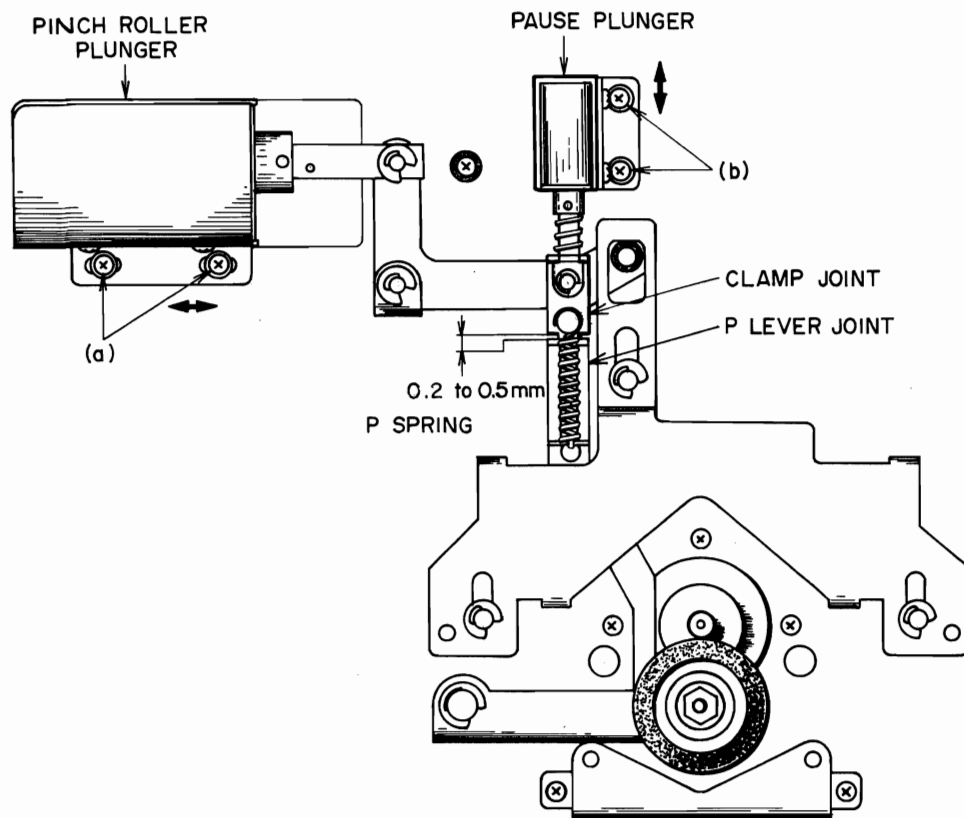

Fig. 7-7
6. PINCH ROLLER POSITION ADJUSTMENT (Refer to Fig. 7-7)
7. PAUSE PLUNGER POSITION ADJUSTMENT (Refer to Figs. 7-7, 7-8)
It reads otherwise, replace the P spring (See Fig. 7-7).